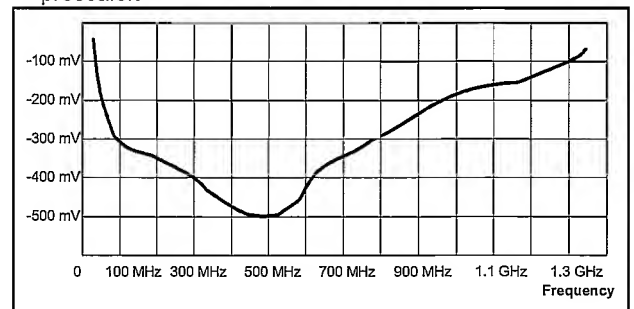

Figure 5-25 Typical Frequency Curve PM9621.
- Figure 5-25 shows the typical frequency curve of the prescaler.